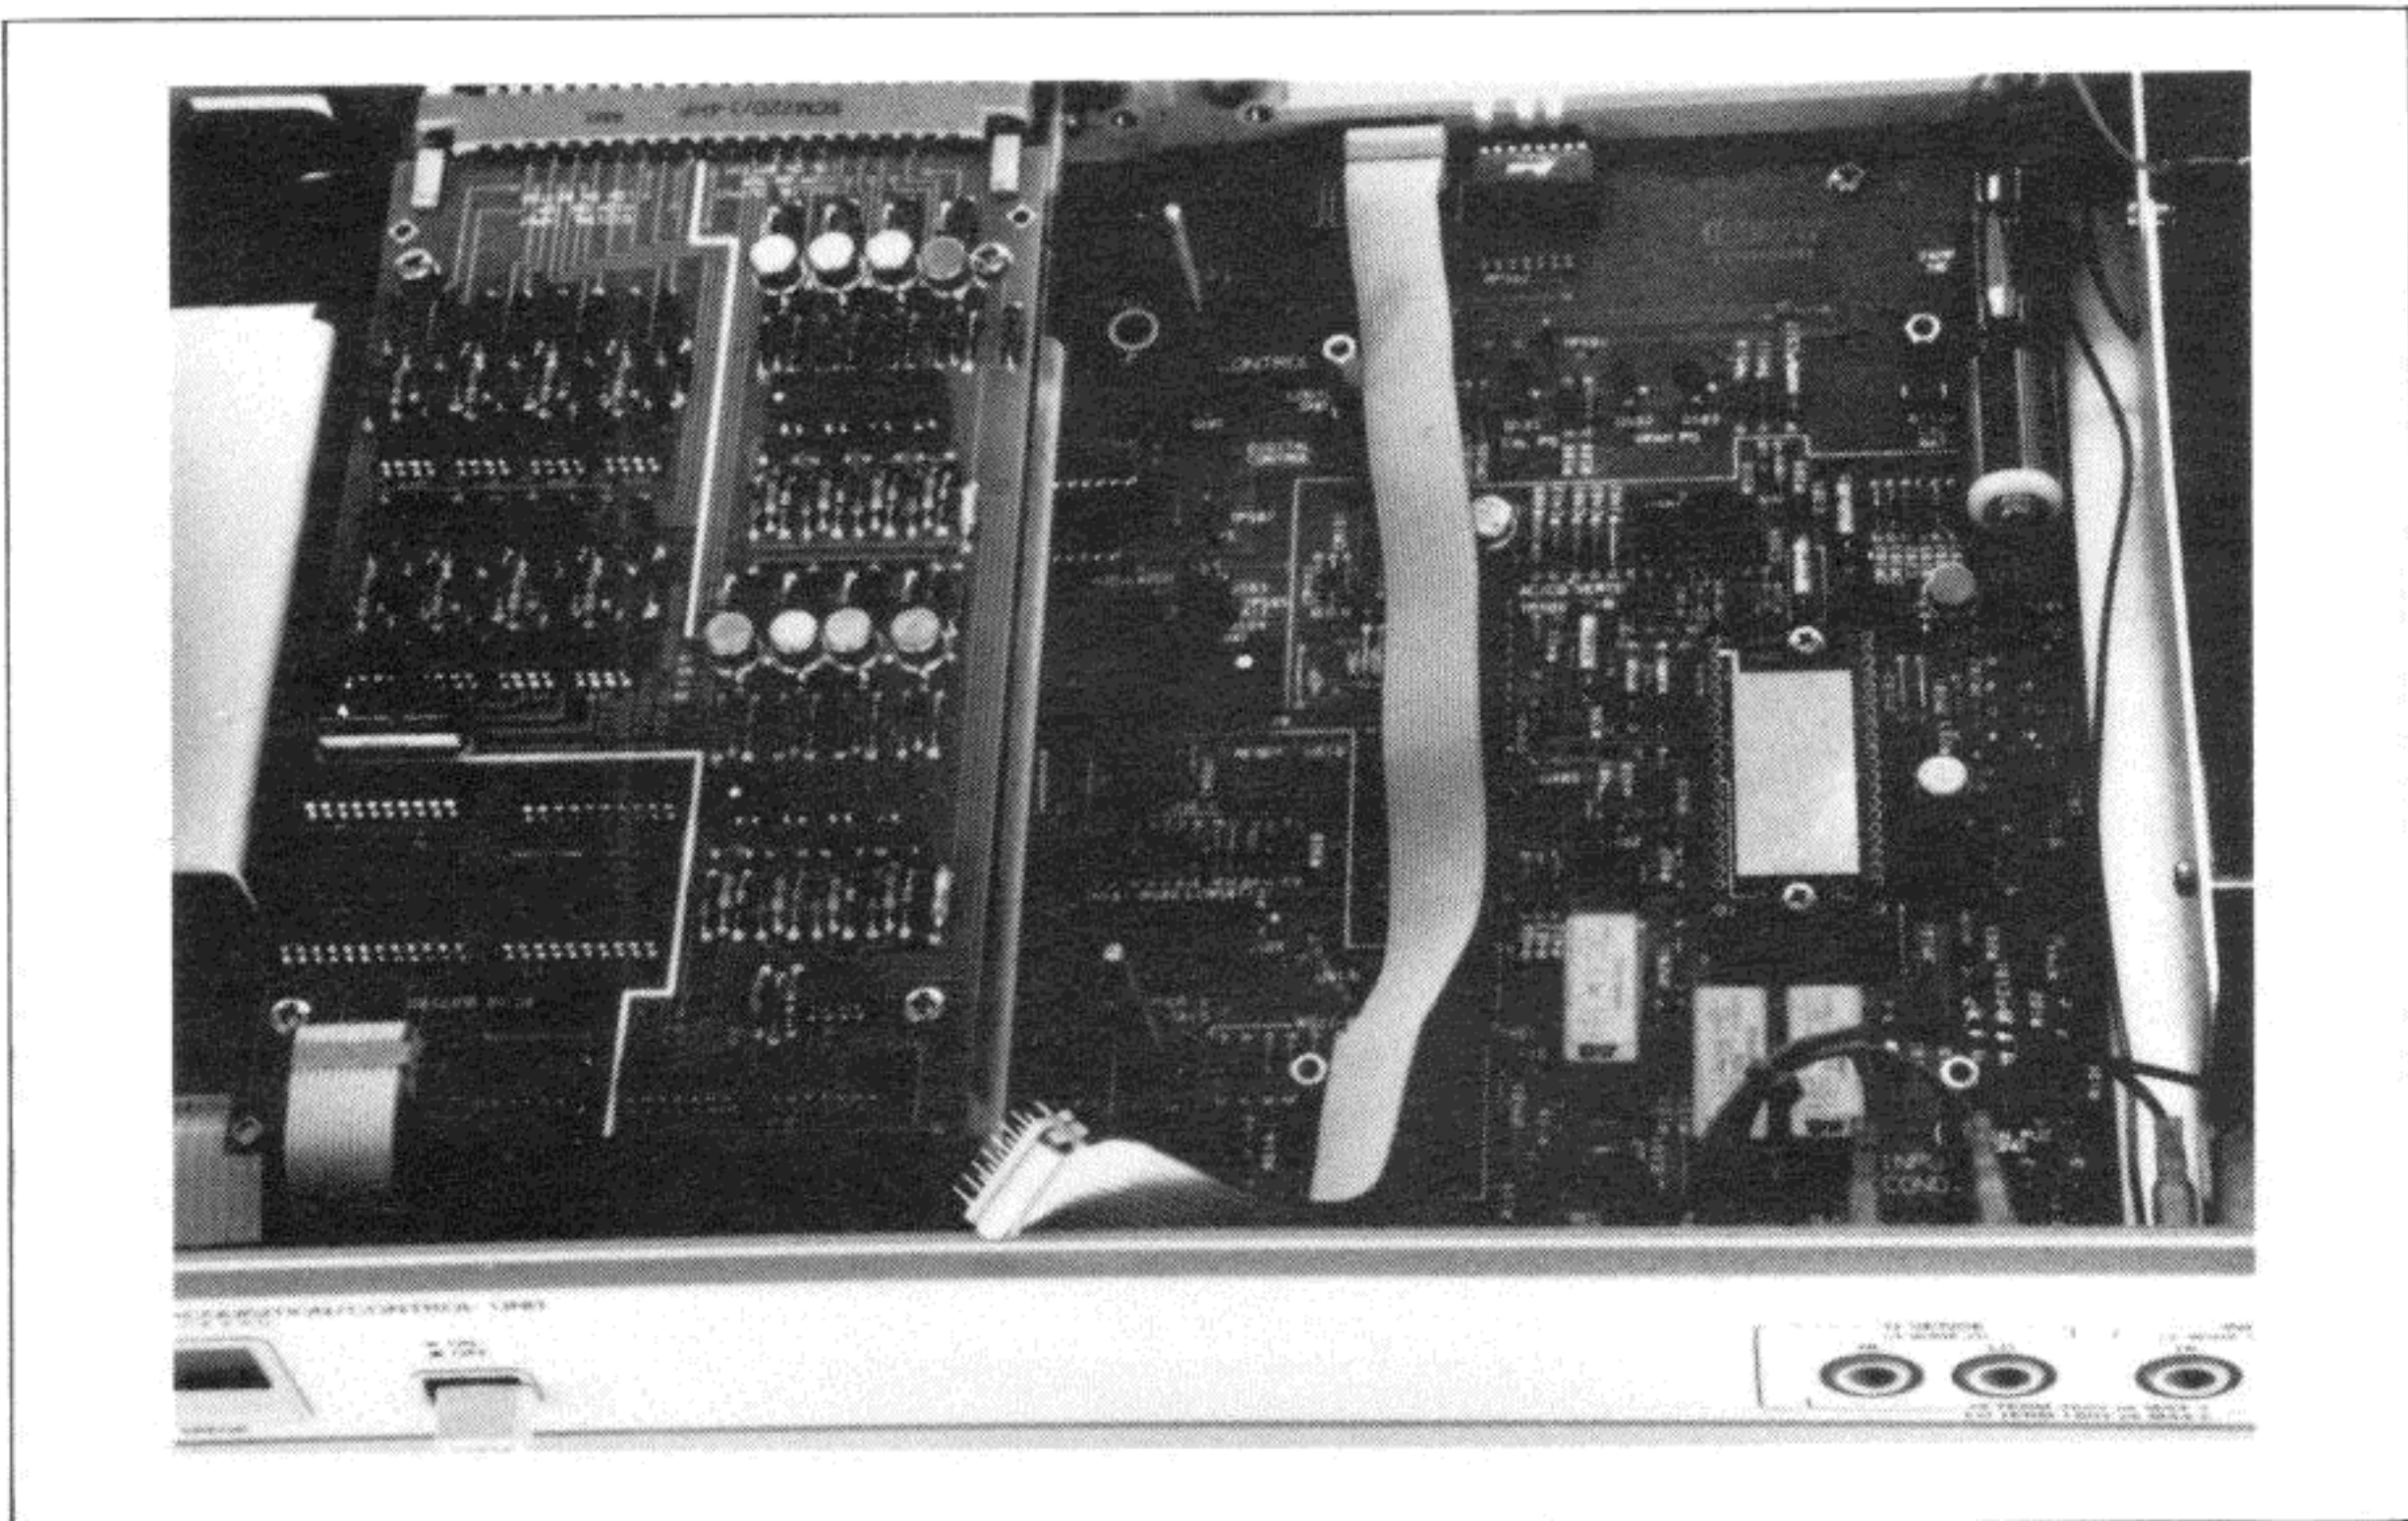

Figure 2-2-7. Slot 0 Option Cable Routing
- b. Route the ribbon cable for the slot 0 option as shown in Figure 2-2-7.